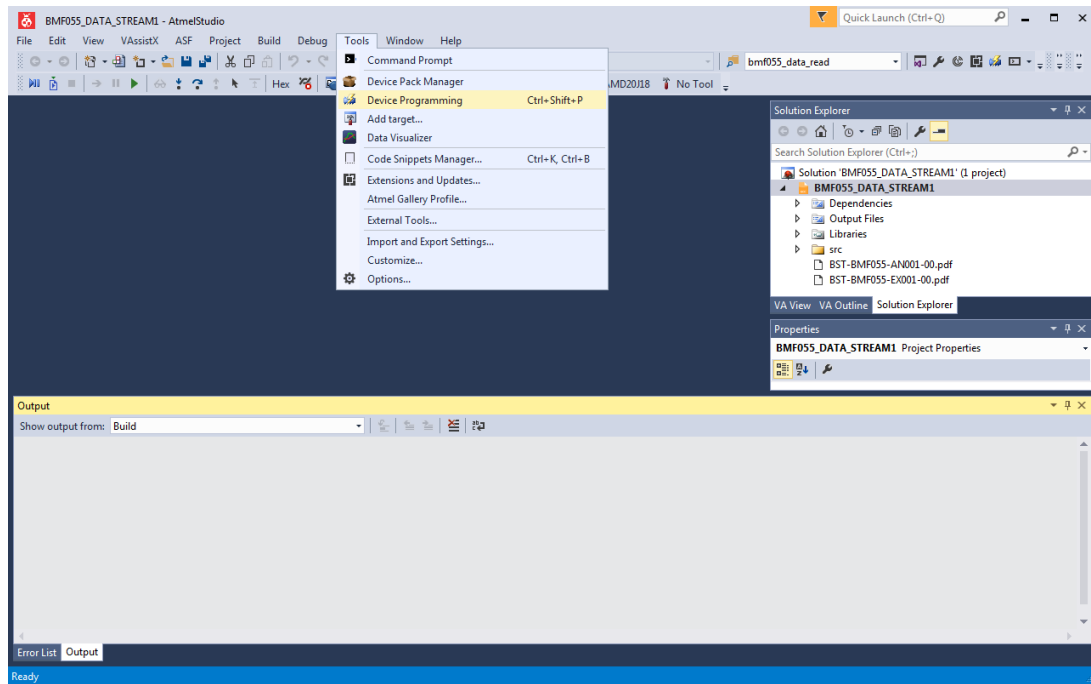

Figure 11 - Atmel Studio, Start without Debugging
20. Go to “Debug -> Start Without Debugging” (Figure 11)